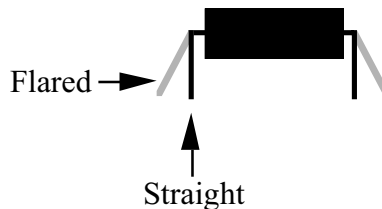

Figure 9
- Carefully straighten the leads of U1 (PIC16C621A) as shown in Figure 9. The two rows of pins must be straight and parallel to each other to establish the proper pin spacing. To straighten the pins, rest one entire row of pins against a hard, flat surface. Press down gently on the other row of pins and rock the IC forward to bend the pins into position as shown below.